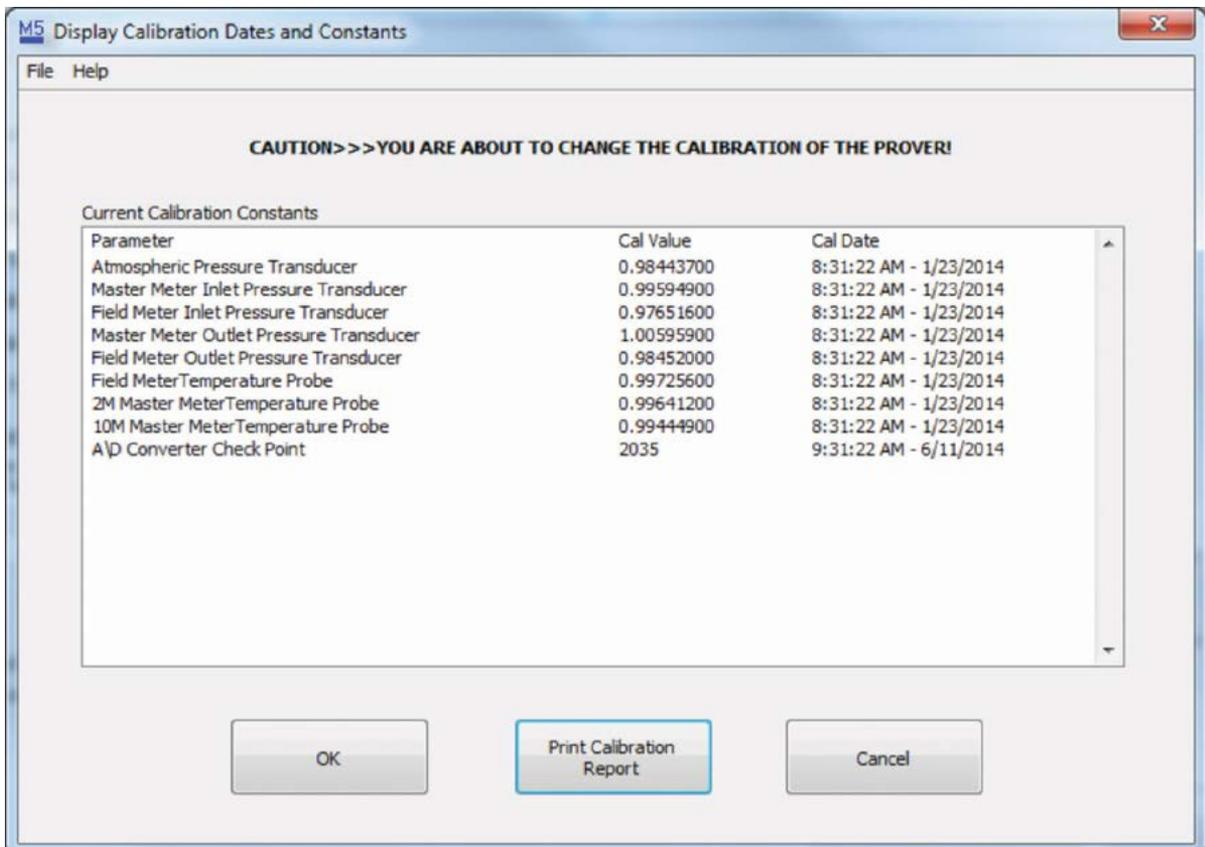

Figure 60: Calibration Warning Window
12. A third window will appear as shown in **Figure 60**. It will appear with the following message, “Caution, you are about to change the calibration of your Prover”. Click “OK”.